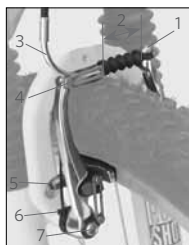
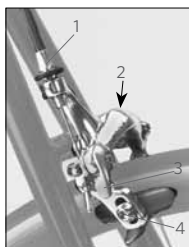

FIGURE 27:
FIGURE 29:
- **Rim brake:** brake pads apply pressure to the rim. The pressure is controlled with a hand lever that is connected to the brake by a cable. Examples include direct-pull or V-type brakes (Figure 27), cantilever brakes (Figure 28), and road or caliper brakes (Figure 29). The rim brake system includes these parts:
- Brake modulator- some front direct-pull brakes are equipped with a brake modulator, or “Power modulator.” This device includes a small spring in the pipe (Figure 27) that changes the way the brake works during the
- For most direct-pull (Figure 27) or cantilever (Figure 28) systems the barrel-adjuster is on the lever. For most road caliper systems (Figure 29) the barrel-adjuster is on the brake itself.
1. Turn the center-adjust screw (Figure 27, Figure 28, or Figure 29) in small increments.
- For most road calipers, lift the brake release lever (Figure 29) to the UP position. To close, turn the lever to the DOWN position.
- For direct-pull brakes, disconnect the pipe from the link (Figure 27). With one hand, push the pads fully against the rim. With the other hand, pull the pipe away from the link, and lift the pipe. Release the brake-pads. To close the brake, follow the instructions in the opposite sequence.